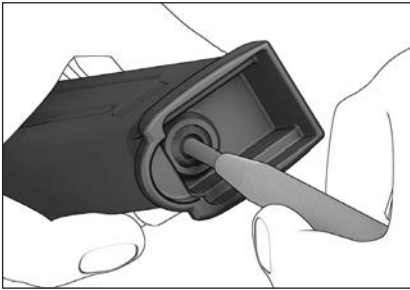

Figure 26
1. Using a blunt, pointed instrument, depress the locking insert detent located in the floorplate and hold it there (see Figure 26).